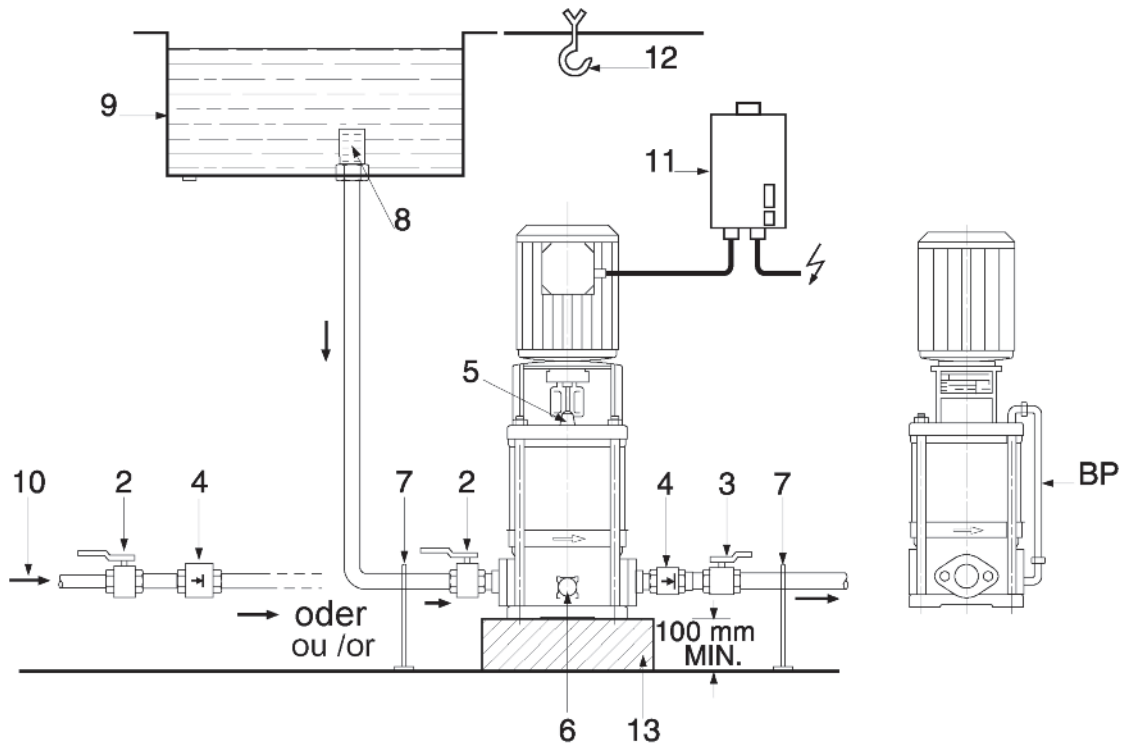

Fig. 3
Principal dimensions and connection dimensions (table 2, see also Fig 3):
- Dimensions for installation and connections are given in Paragraph 1.2.1, Table 2 and in Fig. 3.